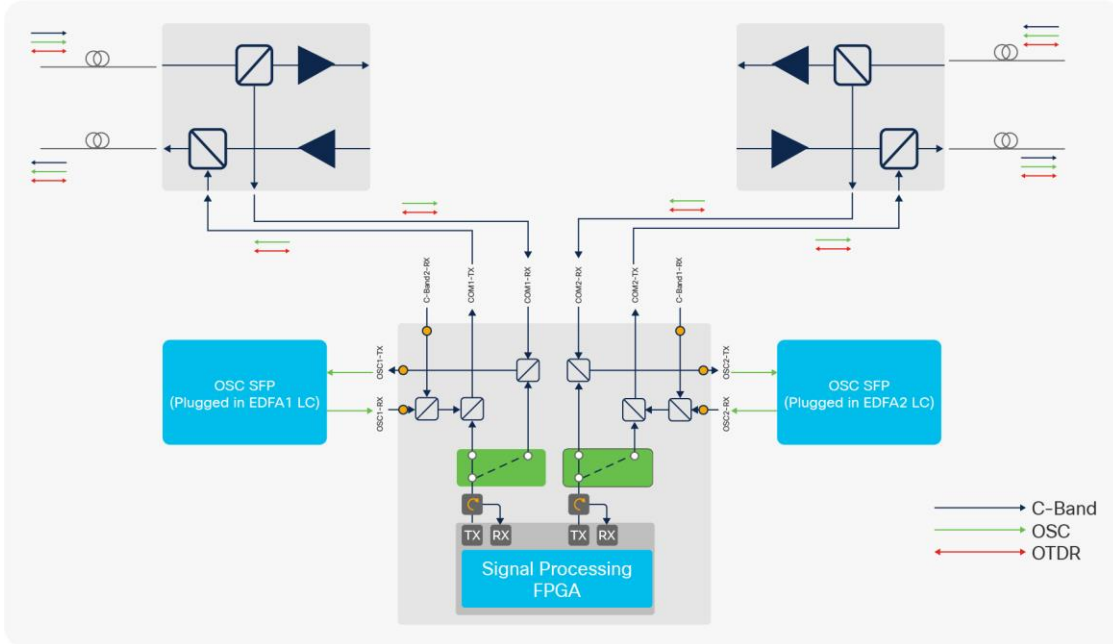

Figure 3.
- Terminal node with unprotected or protected amplifiers at the end points of a point-to-point link. Figure 3 illustrates how the OTDR line card connects into a protected terminal node that has two amplifier modules.